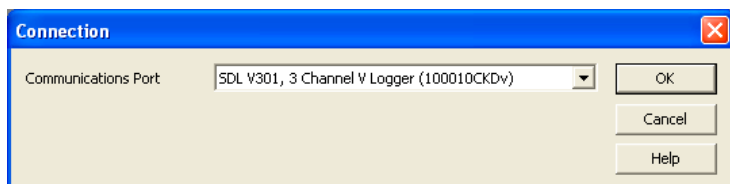

Figure 2-1
- The Sentinel Control Panel will open and the **Connection** window will appear (see Figure 2-1).
NOTE: If the Automatically connect option is checked in the **Tools > Control Panel Options** dialog box, the **Select Instrument** window (similar to Figure 2-1) will appear instead.